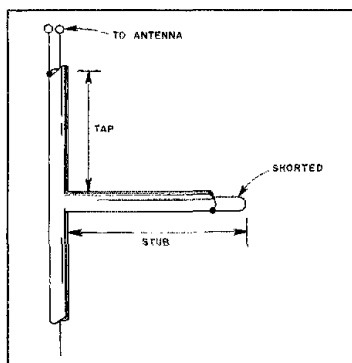

Fig. 2 — Physical configuration of a stub-matching network. Stubs should be made of the same type of cable used for the transmission line.
□ I have provided Tables 1, 2 and 3 to make it simpler and less expensive for amateurs to build their own stub-matching networks, as shown in Fig. 2. The tables are useful for three reasons: (1) The classic shorted-stub matching system suffers from mathematical, but not physical, complexity. (2) Most hams have access to 50-ohm coaxial cable and 300-ohm TV twin-lead. (3) Antenna tuners are made to operate into these two types of line.